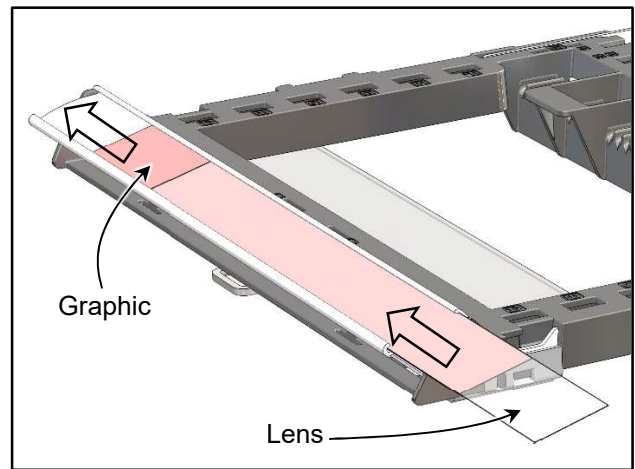

Figure 26
2. Insert the Graphic into the Front Cover and insert the Lens over the Graphic (See Figure 26).